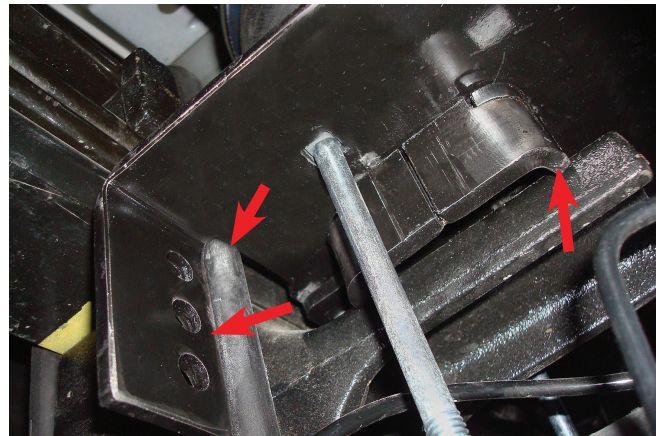

Fig. 16
- Push the lower bracket so that it is flush against the leaf spring stack. The flanges on the lower bracket main plate should lock on the sides of the U-bolt (Fig. 16).